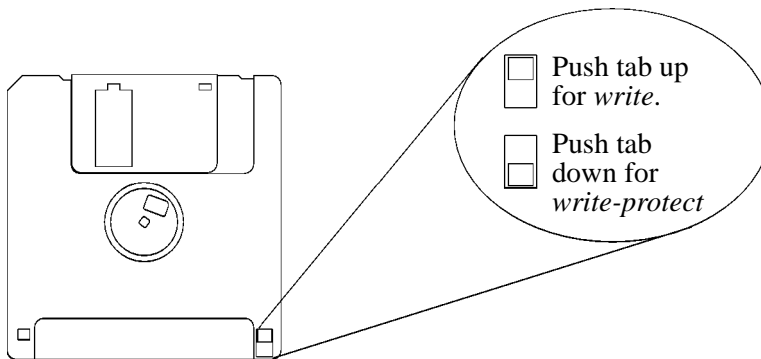

Figure 8-9
You can only store or change information on a diskette when the write-protect tab is in the write position. So, before trying to write to the diskette, make sure that the write-protect tab is in the write position, as shown in Figure 8-9.
To protect files on a diskette from being overwritten, set the write-protect tab to the write-protect position, as shown in Figure 8-9.
- 2 Make sure that the write-protect tab on the floppy diskette is in the write position, as shown in Figure 8-9.